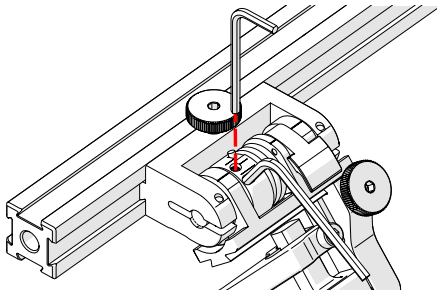

Fig. 115 - Insert hex tools
4. Place the 2 mm hex wrench into the force adjustment screw (*Fig. 115*).